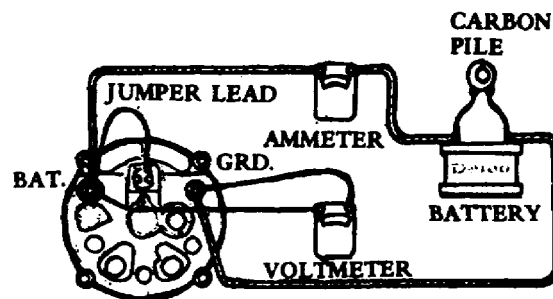

Figure 1. Output check.
c. The ammeter is connected in series during the generator output check (fig 1).